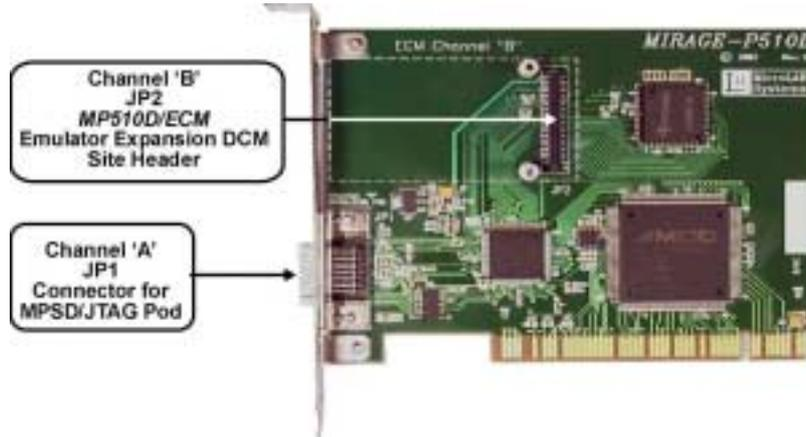
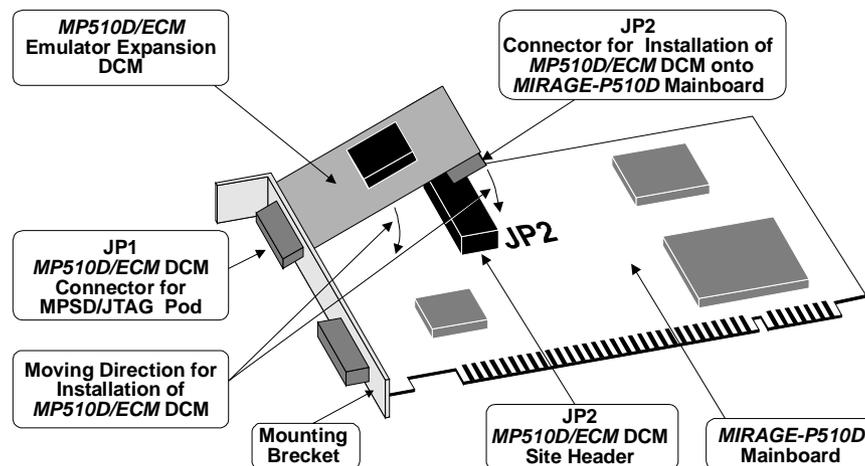

Fig.2-1. *MIRAGE-P510D* emulator mainboard.
Fig.3-1. Installation of *MP510D/ECM* emulator expansion DCM onto *MIRAGE-P510D* mainboard.
*MIRAGE-P510D* emulator PCI-bus plug-in mainboard (fig.2-1) has been designed to plug into any 32-bit PCI-bus slot of host PC and includes 32-bit 33MHz host PCI-bus interface, one universal MPSD/JTAG emulation control channel, and on-board expansion site for optional *MP510D/ECM* emulator expansion DCM.
*MP510D/ECM* emulator expansion DCM installs into on-board JP2 expansion connector site of *MIRAGE-P510D* emulator mainboard (refer to fig.2-1). Figure 3-1 demonstrates installation of *MP510D/ECM* emulator expansion DCM must be installed onto *MIRAGE-P510D* emulator mainboard.